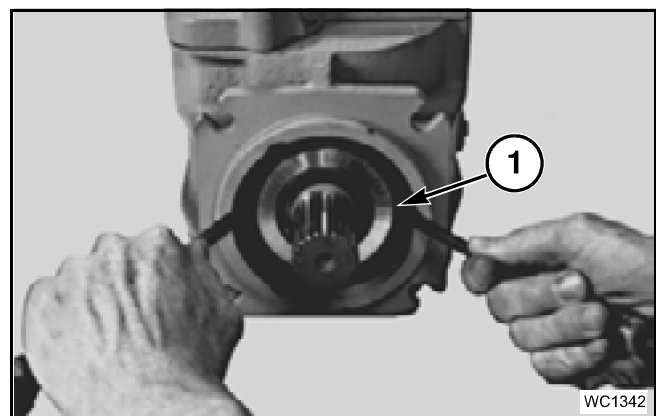

FIG. 503
FIG. 503: If the seal carrier (1) does not move from the bore upon removal of the screws, pry the seal carrier from the bore, or lightly tap the end of the shaft with a soft mallet.